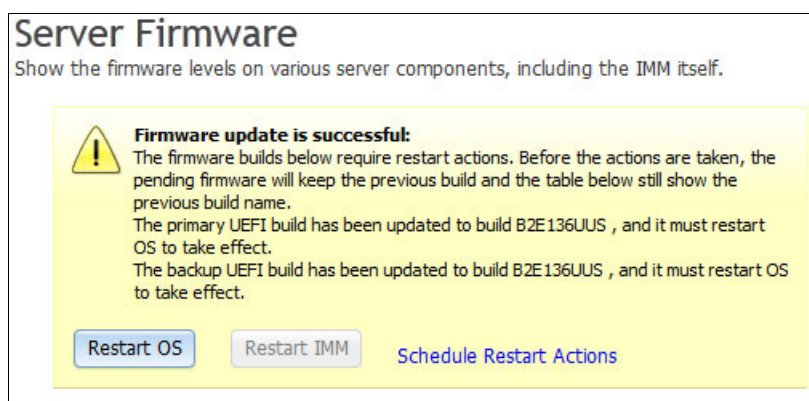

Figure 6-26 Firmware activation pending restart message
7. Click **Finish** to quit the Firmware Update wizard without rebooting. If a restart of the IMM or a reboot of the OS is required, a message stating they are required so that firmware updates can be activated is displayed, as shown in Figure 6-26.